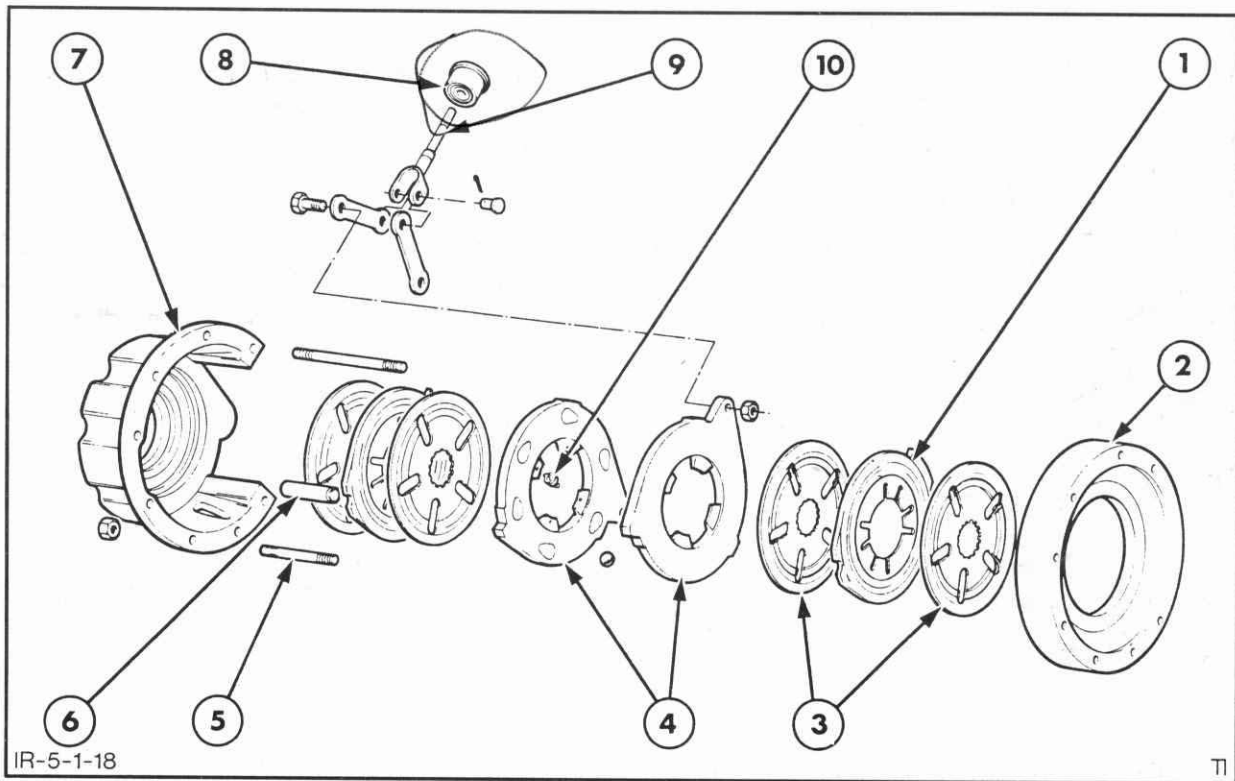

Figure 5-18
1. Detach the brake control rod and actuating links by removing the cotter pins, clevis pins and nuts, Figure 5-18.